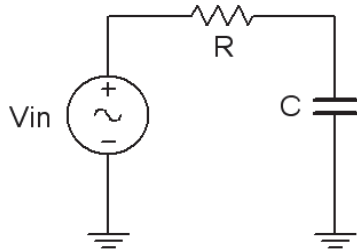

Figure 6.1
- Using Figure 6.1 with $V_{in}=2$ V p-p sine at 10 kHz, $R=1$ k Ω , and $C=10$ nF, determine the theoretical capacitive reactance and circuit impedance, and record the results in Table 6.1 (the experimental portion of this table will be filled out in step 5). Using the voltage divider rule, compute the resistor and capacitor voltages and record them in Table 6.2.
- Build the circuit of Figure 6.1 using $R=1$ k Ω , and $C=10$ nF. Place one probe across the generator and another across the capacitor. Set the generator to a 10 kHz sine wave and 2 V p-p. Make sure that the *Bandwidth Limit* of the oscilloscope is engaged for both channels. This will reduce the signal noise and make for more accurate readings. Also, consider using *Averaging* for the acquisition mode, particularly to clean up signals derived using the *Math* function.
3. In general, how would the phasor diagram of Figure 6.1 change if the frequency was raised?